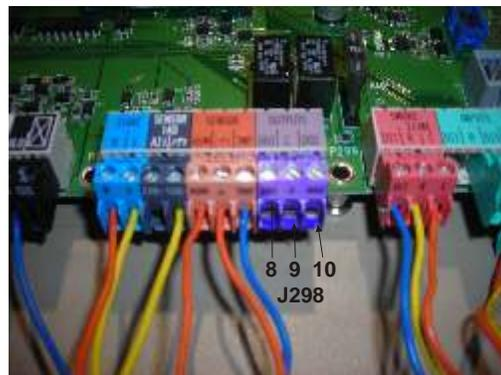

Figure 4
- D. Route wire through the control section down to the IMC2 control board. Strip the wire ends  $\frac{3}{8}$ " if they have not been pre-done. Place the Green wire under screw terminal at J298-8 (Purple connector). Do the same routine for Pink at J298-10 and Black to J298-9. **See Figure 4.**